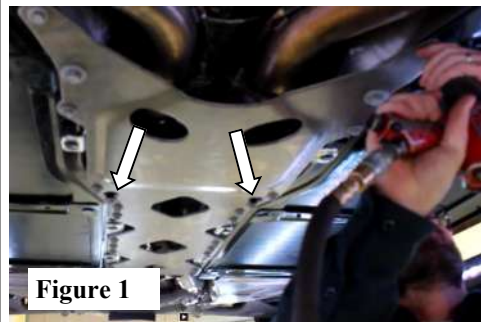

Figure 1
1. Loosen and remove the bolts holding the Tunnel Stiffening Brace using 13mm and 15mm sockets. *Note the two (2) keyhole slots in the middle of the brace. Loosen (do not remove these bolts) and carefully slide the brace rearwards and remove. Keep for reinstallation later.* (See Fig. 1)